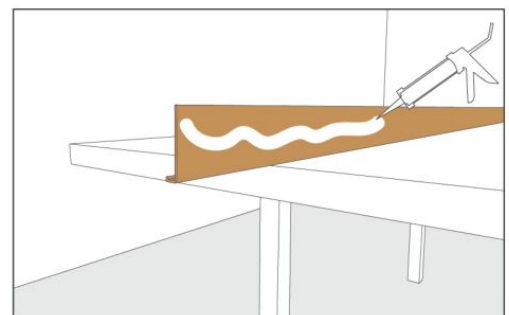

Fig.7
- Apply adhesive to the back of the starter strip.(Fig.7)